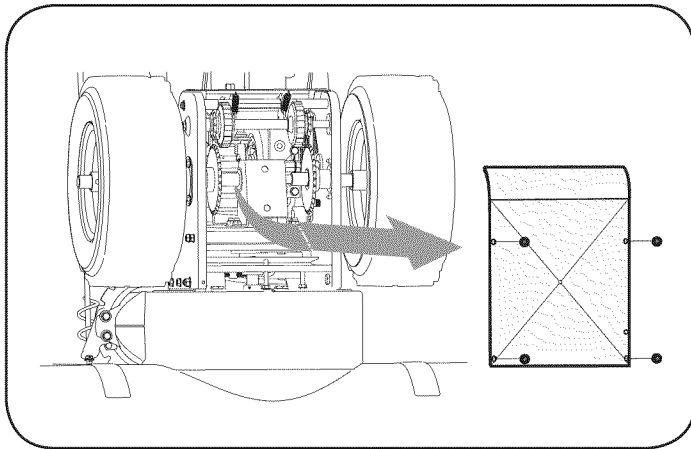

Figure 26
2. Remove the frame cover from the underside of the snow thrower by removing the self-tapping screws which secure it. Refer to Figure 26.
1. With the snow thrower tipped forward (be certain to run the fuel tank empty before tipping the unit forward), remove the frame cover underneath the snow thrower by removing the four self-tapping screws which secure it to the engine frame. See Figure 26.